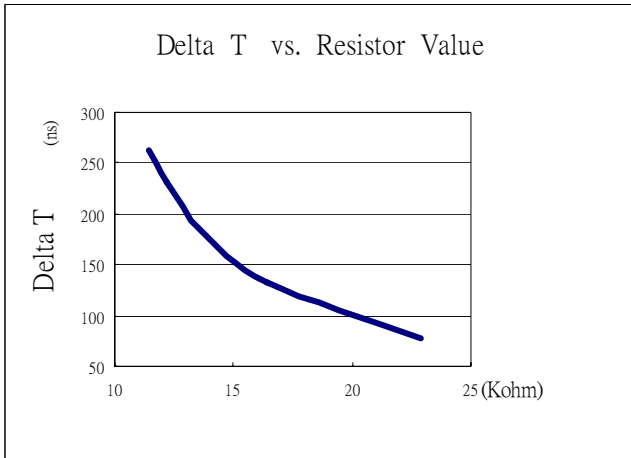
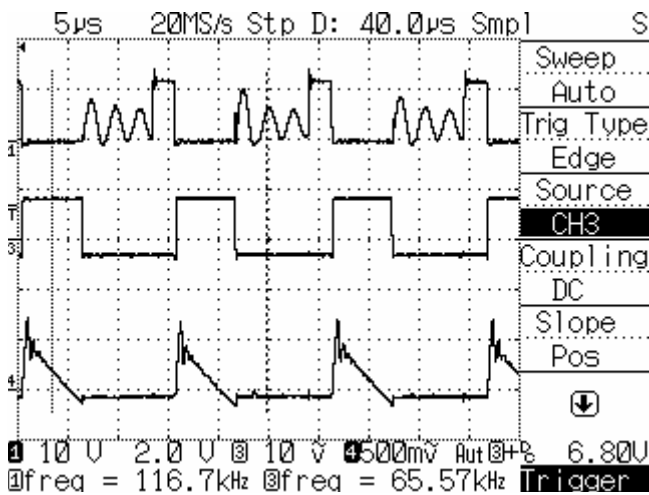

Fig.13
Fig. 14
Step 7: Timing adjustment. The Timing adjustment should be performed under light load circumstance. A variable resistor, 0~100K $\Omega$ , is connected from Timing pin to VDD and adjust the variable resistor. Changing the resistor value will change dv/dt slope Fig.14. This resistor value normally is from 10Kohm to 30Kohm. The typical relation between resistor value and the Delta T is shown in Fig.13.
Once the resistor value is adjusted correctly, the SP6013 gate will be triggered as shown in Fig.14 .